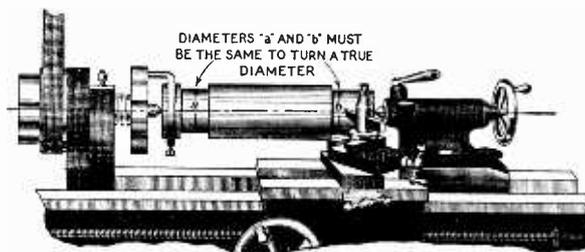

Fig. 3—Diagram above shows means of obtaining identical diameter for both ends of the shaft.
diameter, is that the lathe centers be in line. If not in line, one end of the cylinder will be of a different diameter than the other. Fig. 3 illustrates a simple test for alignment of centers. In this the bar is first drilled with centers, each end, fitted with a lathe dog, placed between the lathe centers and made ready for turning. The tool is made to cut the bar at point "a" to a diameter above that finally desired. Without disturbing the tool setting, the tail-stock center is withdrawn, the work is held to one side and the tool is run on the feed screw until at the location "b." The work is then centered and a cut is made at this position "b." The diameters at "a" and "b" are then compared, using calipers or micrometer. If there is a variation of diameters, the tail-stock is adjusted laterally, other trial cuts are made, repeating the previous procedure. When the cuts register the same diameters, the lathe tail-stock is in proper position to proceed with the work.
**I**N this footstool the circular top may be one solid piece, or a framework may be built up and webbed to carry the stuffing. If the top is to be solid, it should be 1 ft. diameter by 1 in. thick, strengthened with a batten on the underside. If it is to be a built-up frame, two circular rings should be cut from 1/2-in. or 3/4-in. timber, as at Figs. 3 and 4, and screwed together, with the grain running in opposite directions. The legs are turned from 1-in. timber, as Fig. 2 (or may be purchased), and dowelled into the top. The cross-rails are 11 1/2 in. long by 3/4 in. wide by 1/2 in. thick, half-lapped together (Fig. 5), and tenoned into the legs. (See Figs. 2 to 5.) A framed top should be webbed (Fig. 3), lightly stuffed and finished with gimp.—*J. E. Lovett.*